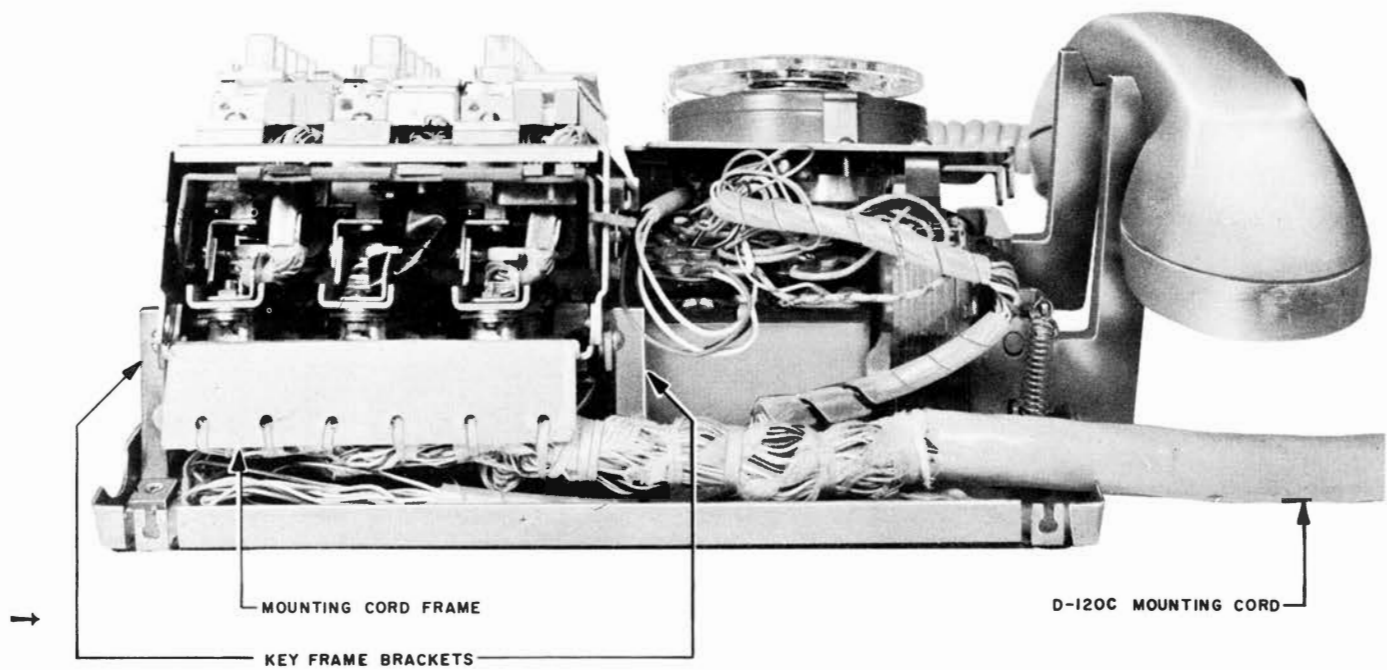

Fig. 14 — 600-Type Telephone Set, Housing Removed, Rear View
2. Remove screws from right and left key frame brackets (Fig. 14).